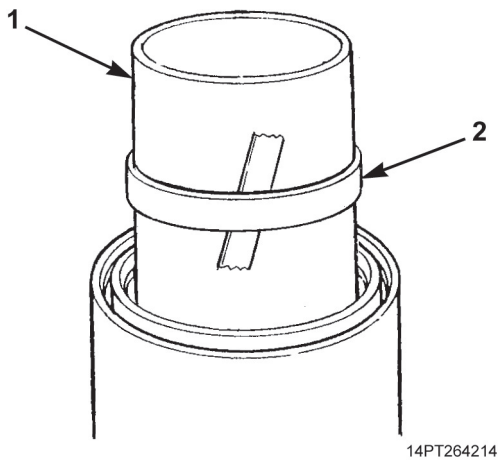

Figure 10. Bottom Guide Ring Removal.
14. Extend sleeve (Figure 10, Item 1) a few inches and apply tape to a cleaned section of sleeve.
15. Retract and extend sleeve (Figure 10, Item 1) to expose bottom guide ring (Figure 10, Item 2). Remove and discard bottom guide ring.